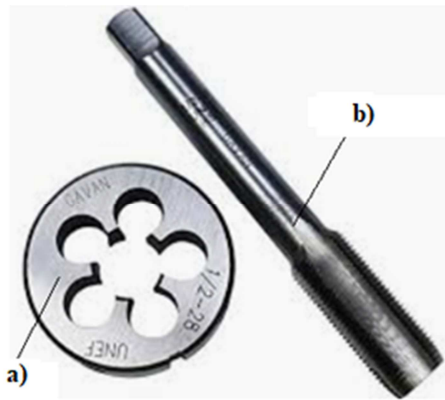

Figure 2
4. a) Study the tools in Figure 2.